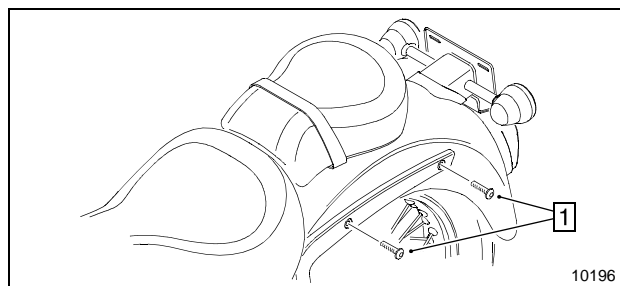

Figure 2
1. Remove the existing rear fender mounting screws (see Figure 2).